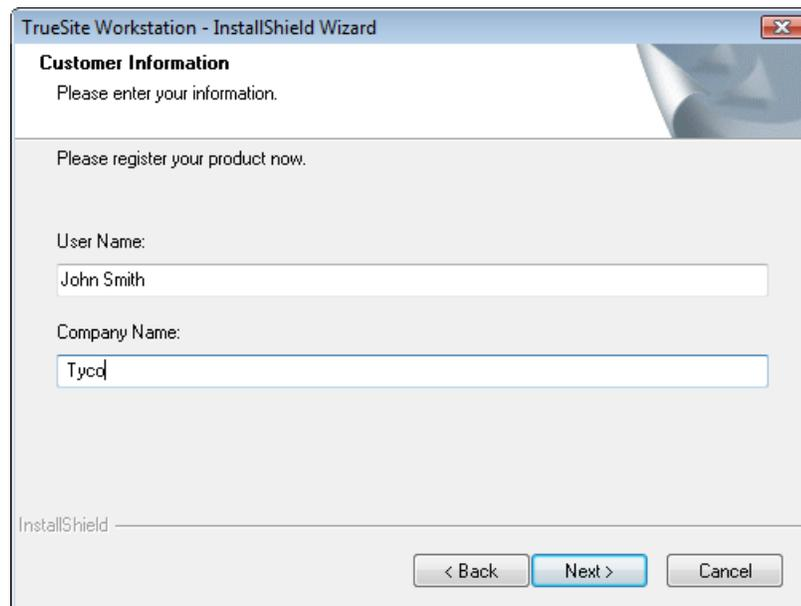

Figure 3-12 Customer Information Dialog Box
- c. Once you've confirmed your agreement to the EULA, a **Customer Information** dialog box prompts you to enter your username and company name as shown in Figure 3-12. Provide the required information and click **Next**.